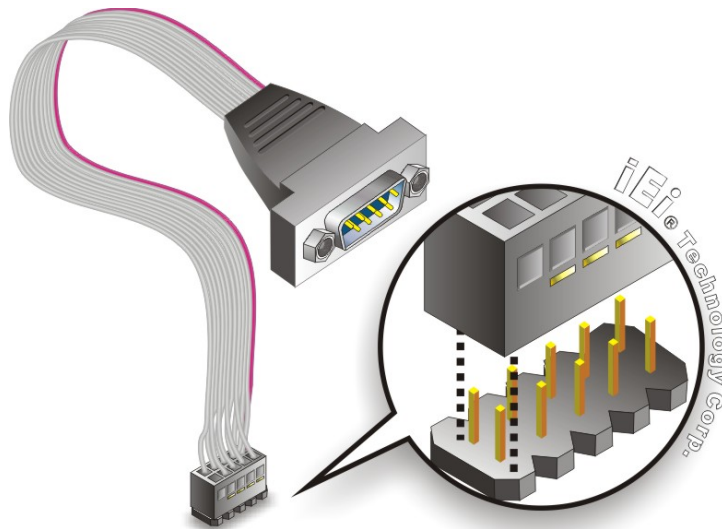

Figure 4-8: Single RS-232 Cable Installation
Step 2: **Insert the cable connector.** Insert the connector into the serial port header. See **Figure 4-8**. A key on the front of the cable connectors ensures the connector can only be installed in one direction.